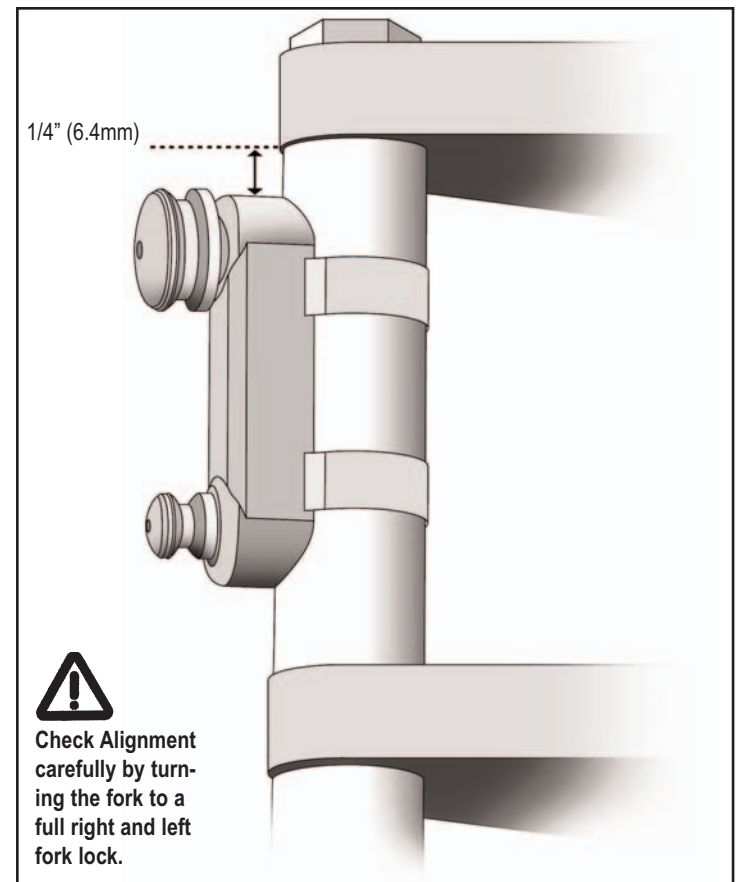

Figure 4.
11. Adjust top edge of Mount Cup to be 1/4" (6.4mm) from the upper triple clamp. **See Figure 4.**